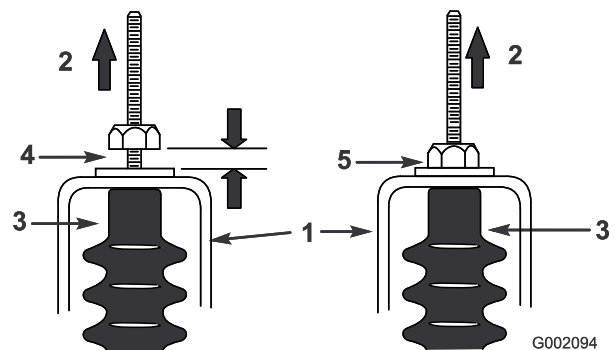

Figure 52
5. Pull up on each shift cable and ensure that there is a 0.76 to 1.52 mm (0.03 to 0.06 inch) between the nut/washer and the neutral bracket (Figure 52).